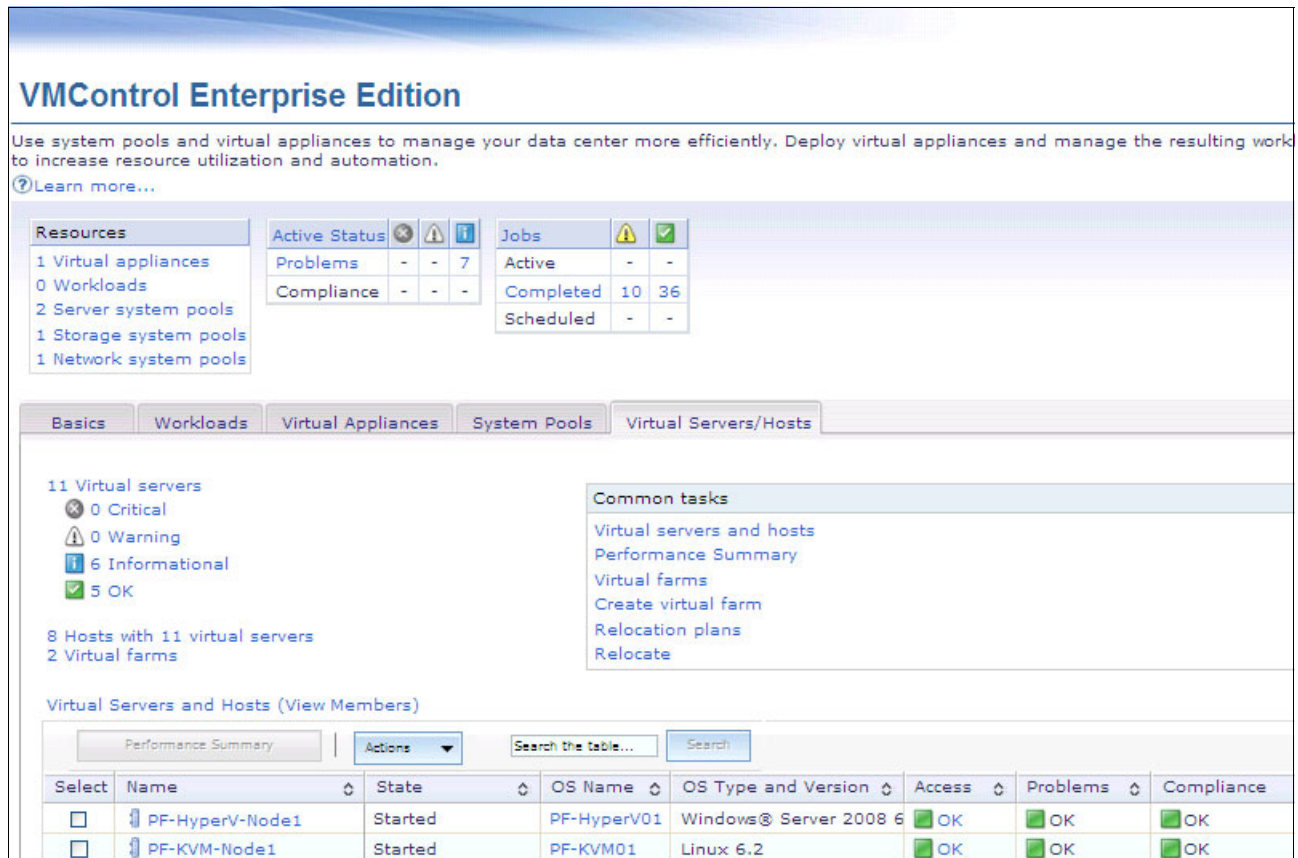

Figure 12-15 VMControl Enterprise Edition
- Go to VMControl and click the **Virtual Servers/Hosts** tab as shown in Figure 12-15.